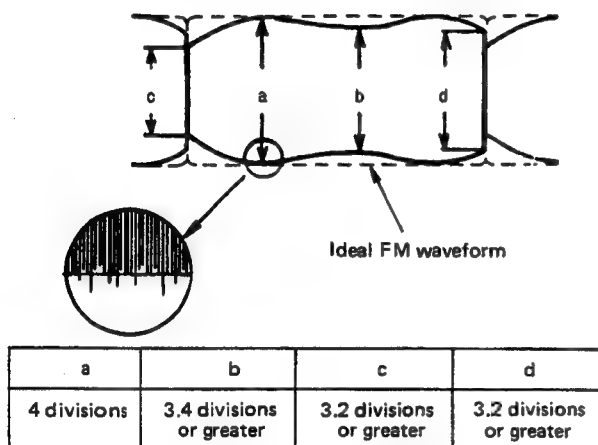

Fig. 2-41 FM waveform (maximum output)
4. Adjust the oscilloscope gain to set the maximum FM waveform level ("a" in Fig. 2-41) to 4 scale divisions. Confirm that the minimum level ("b" in the figure) is greater than 3.4 scale divisions. Read the value where the serrations are most aligned.